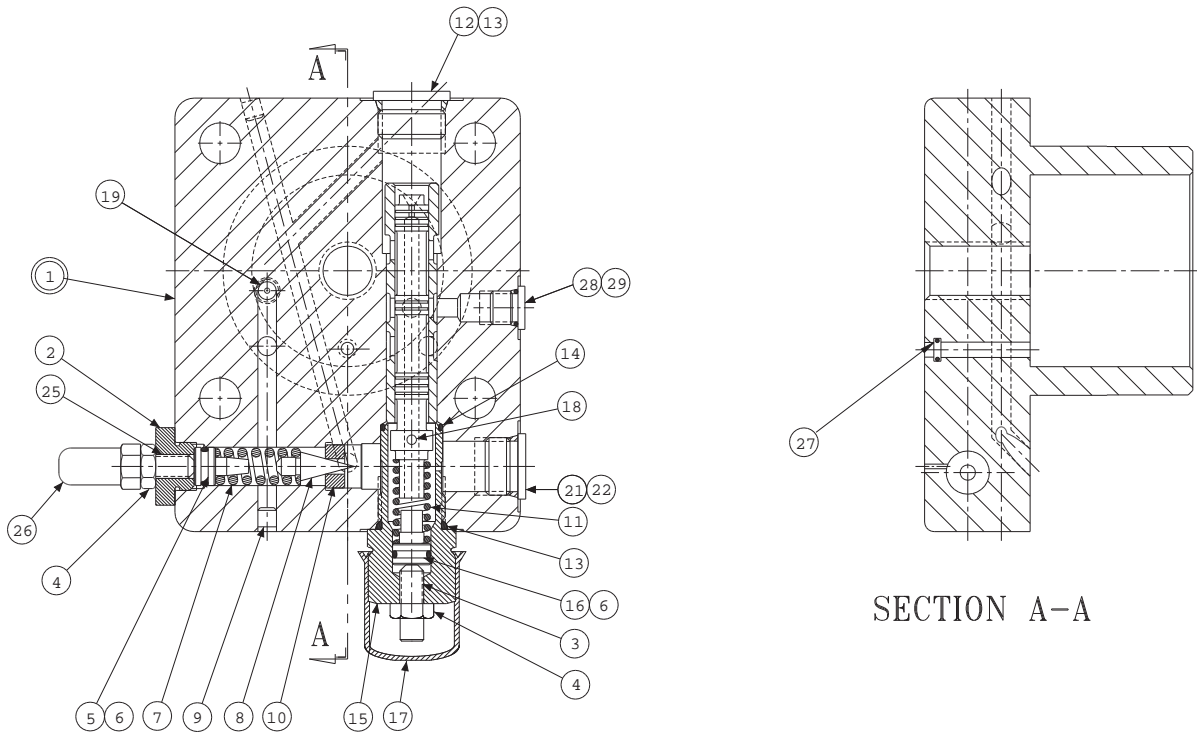
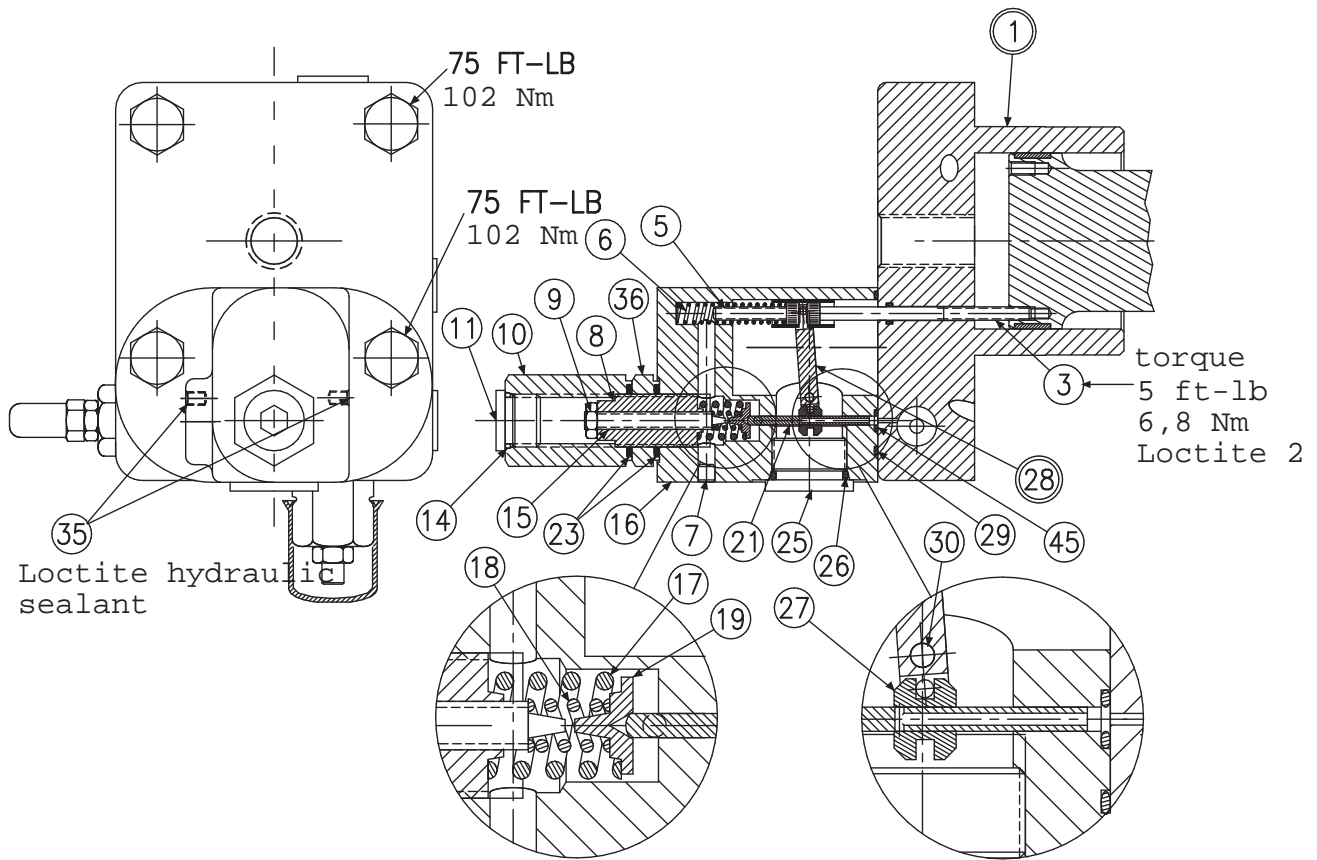

FIGURE 10
FIGURE 11
PARTS LIST FOR FIGURE 10
PARTS LIST FOR FIGURE 11
1. See Figure 11. Remove 2 screws holding torque limiter body (16) to cap assembly (1).
2. Remove all parts from torque limiter body (16) except pin (30) and arm assembly (28). It is not necessary to remove these parts unless broken or worn. Examine parts for wear or damage.
3. Remove screw (3). Examine head for excessive wear, and body for smooth sealing surface with O-ring.
5. Remove cap assembly (1).
6. See Figure 10. Remove plug (15) and attached parts. Remove spring (11) and spool (18).
7. Remove adjusting plug (2) and attached parts. Remove spring (7) and cone (8).
8. Do not remove sleeve in body (1). Sleeve is pressed into cap and finished to size. If sleeve or cap is worn, replace the cap-sleeve assembly (1).
9. Examine seat (10) for wear. Do not remove unless damaged.
1. See Figure 10. Install Avseal plugs (9) and orifice (19) in body.
2. Press seat (10) into bore squarely against shoulder in bore.
3. Install spool (18) into bore as shown. Install spring (11) over end of spool. Install O-ring (6) on seal piston (16). Lubricate and install into plug (15). Install plug (15) into cap. Install screw (3), nut (4) and acorn nut (17). Install plug (12). Torque plugs to 75 lb.*ft., 102 Nm. Install plug (21). Torque to 46 lb.*ft., 62 Nm. Install plug (28). Torque to 11 lb.*ft., 15 Nm.
4. Install O-ring (6) on seal piston (5). Lubricate O-ring and install cone (8), spring (7) and seal piston (5) into bore in cap (1), being careful that cone enters seat (10). Install adj. plug (2), screw (25), nut (4) and acorn nut (26).
5. Carefully install O-ring (27) in the cap.
8. See Figure 11. Apply Loctite 242 on threads of screw (3), lubricate the shank, thread through the cap into the control piston, and torque to 5 lb.*ft., 6,8 Nm
10. Press dowel (30) into body (16), through the link assembly (28), to 1/4", 6,35 mm below surface. Apply Loctite hydraulic sealant to threads of screws (35) and install over dowel (30).
11. While sleeve (27) is engaged into dowel on link (28), slide spool (21) into bore of body (16), and through sleeve (27). Spool (21) must move freely and easily at all positions of the link (28).
12. Assemble remaining parts per drawing. While spring retainer is engaging clevis pin (5) under dowel of link (28), slide the other opening of spring retainer over the top of the screw (3). Attach body assembly (16) to cap (1) and torque screws to 75 lb.*ft., 102 Nm.
Ref. Figure 10